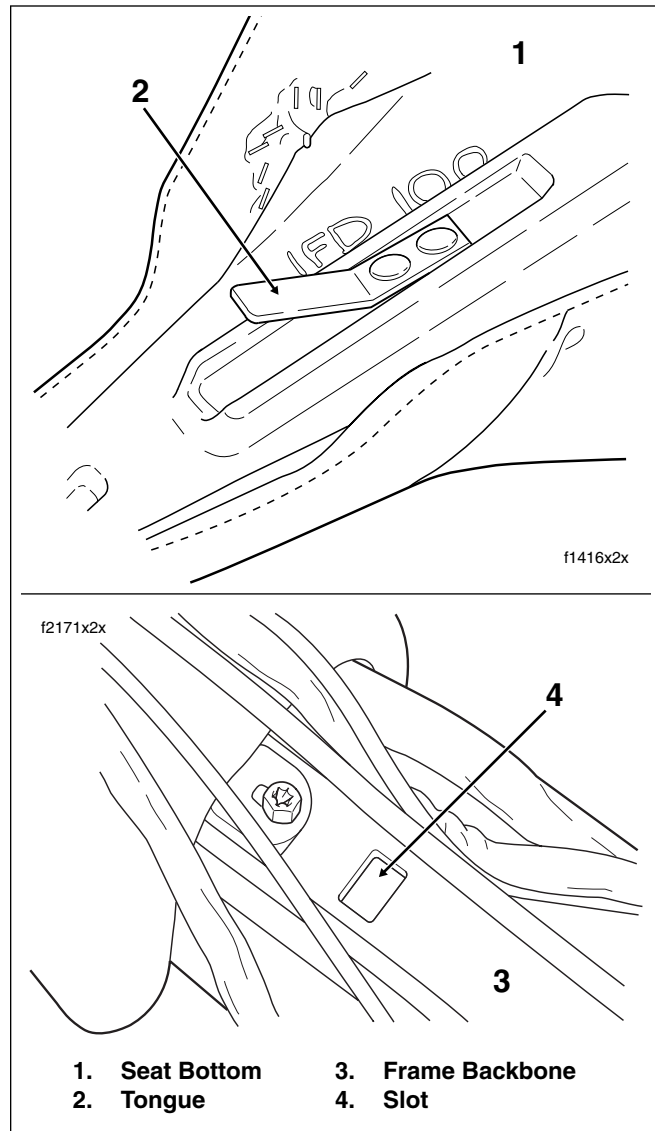

Figure 2-130. Seat Mounting
3. Push front seat rearward to free tongue from slot in frame backbone. See Figure 2-130.
2. Firmly push front of seat downward and rearward until tongue engages slot in frame backbone. See Figure 2-130. Push seat forward until studs are centered in slots of mounting bracket.
5. Push seat rearward to free tongue at front of seat from slot in frame backbone. See Figure 2-130.
2. Firmly push front of seat downward and rearward until tongue engages slot in frame backbone. See Figure 2-130.
4. Push seat rearward to free tongue at front of seat from slot in frame backbone. See Figure 2-130.
7. While pushing seat forward, raise rear of seat until bracket clears top of Tour-Pak. Push seat rearward slightly to free tongue at front of seat from slot in frame backbone. See Figure 2-130.
3. While raising rear of seat approximately 3 inches (76.2 mm), use other hand to firmly push front of seat downward and rearward until tongue engages slot in frame backbone. See Figure 2-130.